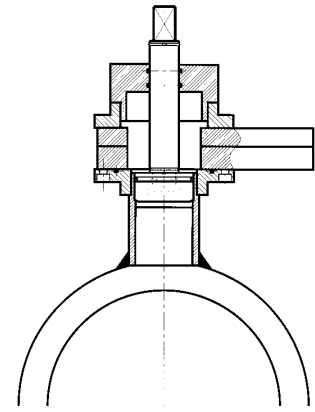

Figure 44
- Once the plug and fitting are in contact, turn the shaft clockwise by means of a 3/4" ratchet wrench, open-end spanner, etc. to screw in the plug into its fitting location. After several turns, the torque resistance will dramatically increase indicating that the plug has completed its screwing travel. See *Figure 44*.